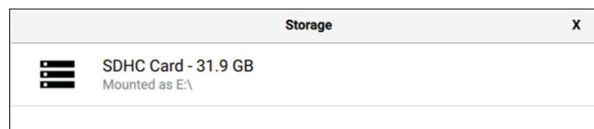

Figure 1.8: Select the SD card.
- Click **CHOOSE STORAGE** and select the SD card (Figure 1.8) as the storage medium. A 32-GB micro SD card was used for the examples in this book.